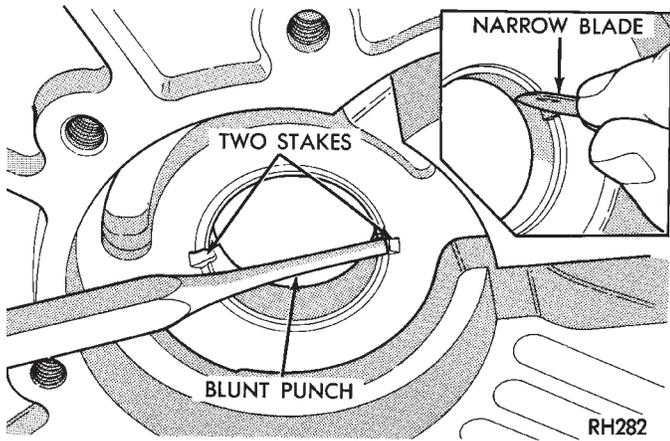

Fig. 169 Staking Oil Pump Bushing
- (3) Stake new pump bushing in two places with blunt punch (Fig. 169). Remove burrs from stake points with knife blade afterward.